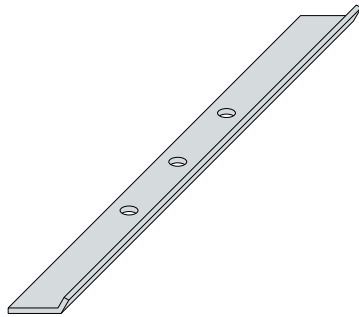

Fig. 4.12.2: Dispenser Z15a
- When installing wall panels with secret fixing (AWP / AWP Flex / AT), original Kingspan Z15a or Z15b spread washers are mandatory to use (Fig. 4.12.2).